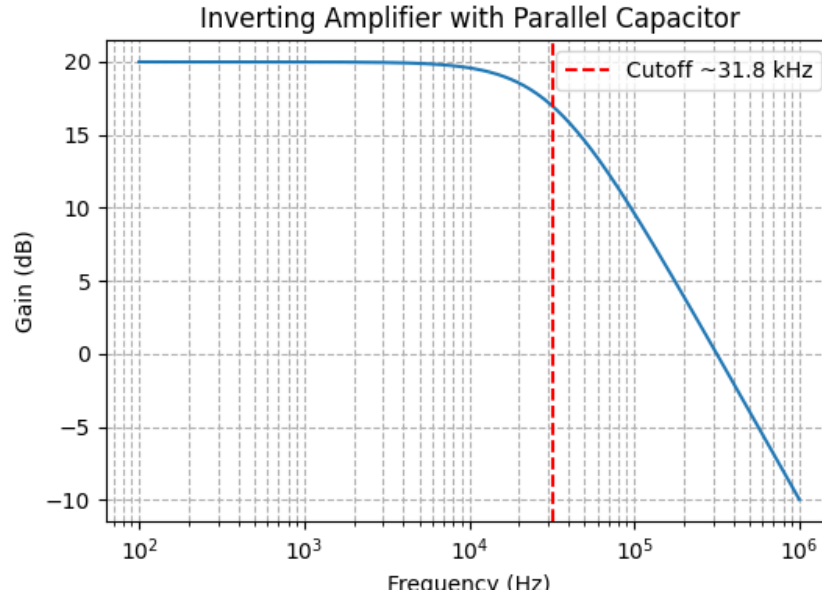

Figure 16: Solution for problem 6. See script `set2_prob6.py` for solution details.
2. Solution plot is shown in Fig. 16.